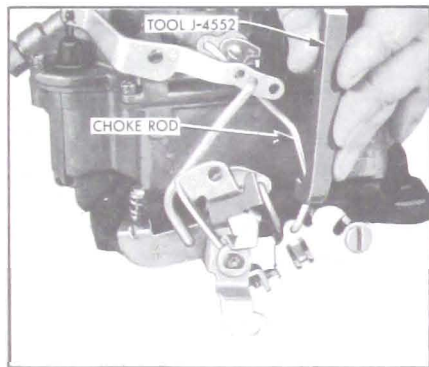

Figure 3-60—Adjusting Fast Idle Cam choke trip lever on end of choke shaft with “RP” out and tighten attaching screw. See Figure 3-50.
2. If choke valve clearance is not correct, bend choke rod as required to obtain this clearance using Tool J-4552. See Figure 3-60.